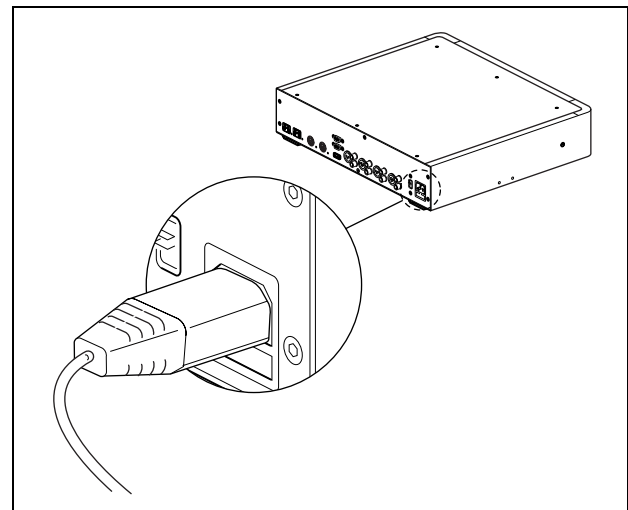

figure 8.4: Power supply
- 3 Connect a locally approved power cable to the central control unit (refer to figure 8.4).